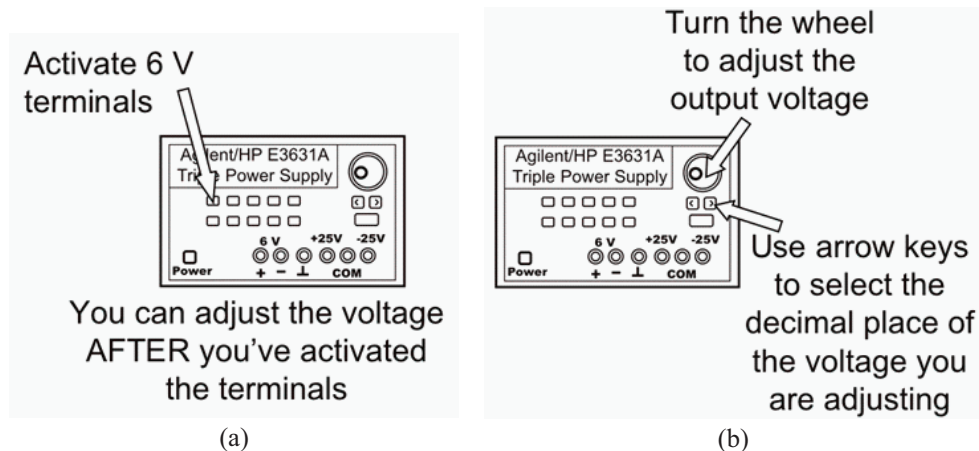

Figure 10: Adjusting power supply.
- Activate the 6 V terminals by pressing the appropriate button shown in Figure 10.